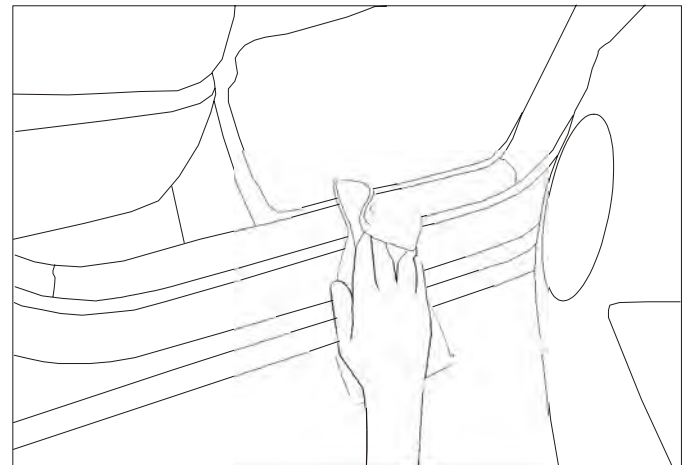

Fig. 1-2
- (1) Always use a clean lint free cloth.
- (2) Shake solution well.
- (3) Apply Cleaner to cloth or wipe. Do not spray cleaning solutions directly to any vehicle surfaces. (Fig. 1-2)
- (4) Clean surface thoroughly and wipe dry immediately with a new clean cloth. Do not allow cleaner to air dry.